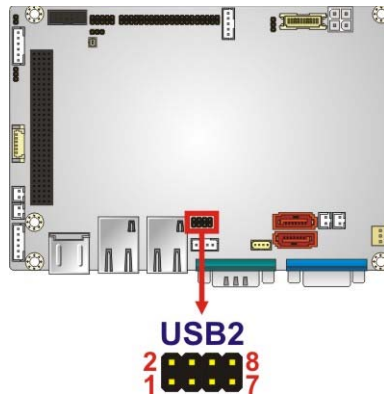

Figure 3-21: USB Connector Location
- CN Location:** See **Figure 3-21**